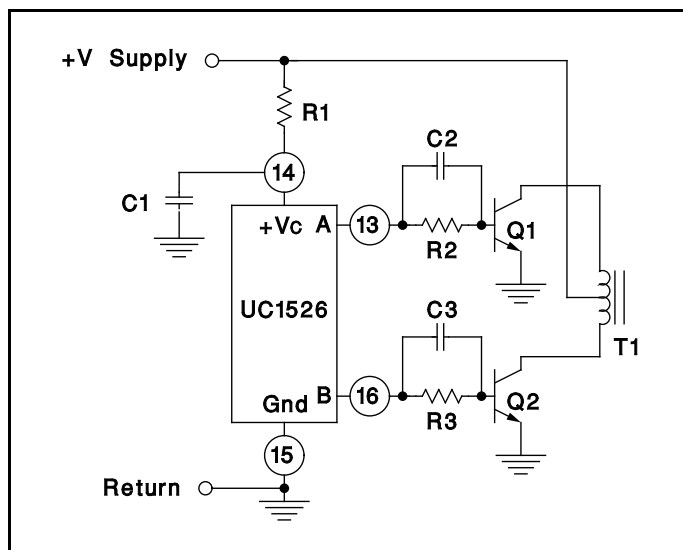

Figure 7. Push-Pull Configuration
1. With $R_D = 0$ (pin 11 shorted to ground) select values for R_T and C_T from Figure 7 to give the desired oscillator period. Remember that the frequency at each driver output is half the oscillator frequency, and the frequency at the +Vc terminal is the same as the oscillator frequency.